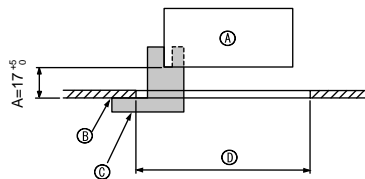

Fig. 5-2
①	Grille	1	950 × 950 (mm)
②	Screw with captive washer	4	M5 × 0.8 × 25
③	Gauge	1	(Divided into four parts)
④	Fastener	3
⑤	Screw	4	4 × 8
⑥	Screw	1	4 × 12
⑦	i-see sensor corner panel	1	for PLP-6BAE
5.2. Preparing to attach the grille (Fig. 5-2)
- With the gauge ③ supplied with this kit, adjust and check the positioning of the unit relative to the ceiling. If the unit is not properly positioned relative to the ceiling, it may allow air leaks or cause condensation to collect.